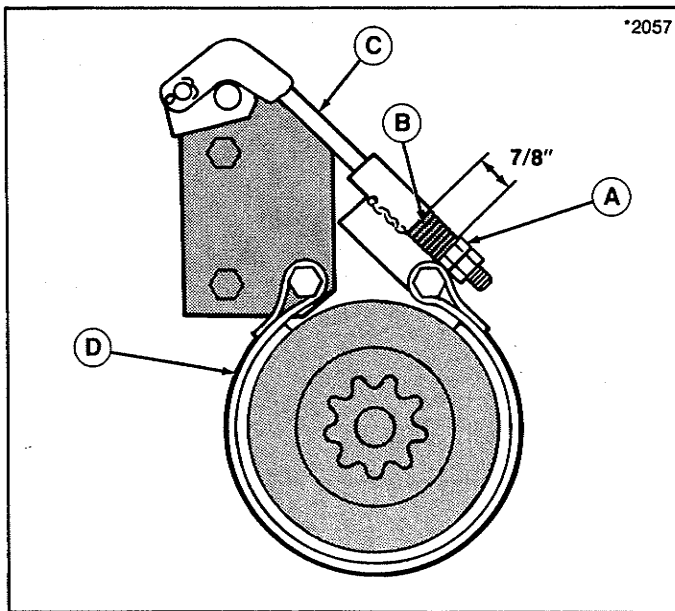

Figure 33.
To adjust, engage the brake and turn the adjustment nut (A, figure 33) so that the compressed spring length (B) is 7/8".